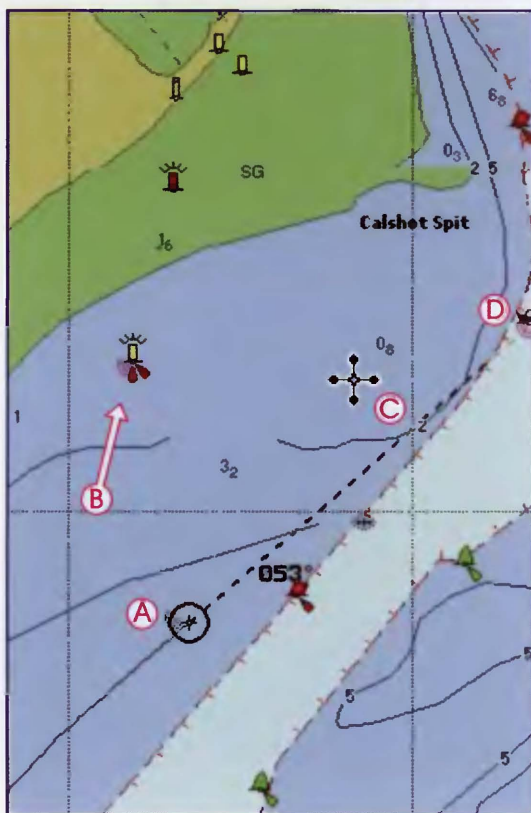

Fig 62
In the situation shown in *Fig 62*, for instance, the plotter is displaying our current position as a black circle (A) with our past track as a solid black line behind it and our predicted track as a dotted line ahead of it. Our Course over Ground is 053°. In this situation, it is quite likely that the navigator might have checked his position by looking at the transit (B) as he went